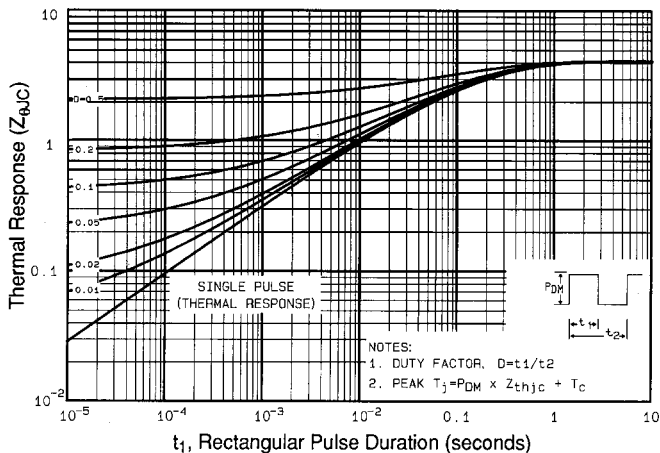

Fig 11. Maximum Effective Transient Thermal Impedance, Junction-to-Case
① Repetitive rating; pulse width limited by max. junction temperature (See Figure 11)
③ $I_{SP} \leq 9.2A$, $di/dt \leq 110A/\mu s$, $V_{DD} \leq V_{(BR)DSS}$, $T_J \leq 175^\circ\text{C}$
⑤ $t=60s$, $f=60Hz$
② $V_{DD}=25V$, starting $T_J=25^\circ\text{C}$, $L=4.9mH$